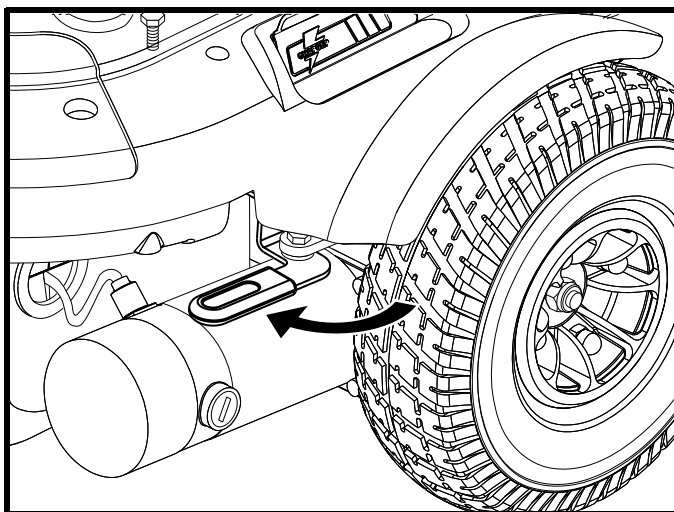

Figure 8. Drive Mode (Drive Engaged)
2. Push both levers inward to engage the drive motors (drive mode). See figure 8.